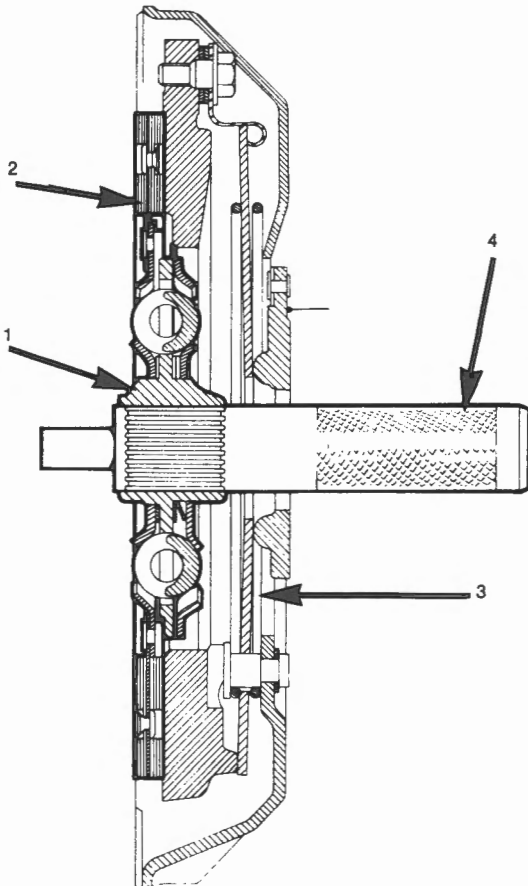

Fig. K-7
- 2 Centralise the plate using Service Tool No. 18GA052 which fits the splined hub of the driven plate and the spigot bearing in the flywheel. As an alternative, a spare input shaft can be used. Refer Fig. K-7.